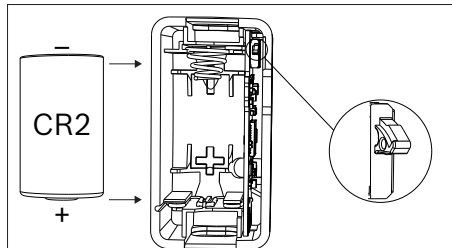

Figure 6.1: Tamper switch and battery orientation in detector
3. Refer to the diagram on the inside cover for correct polarity orientation, then insert the new battery. The green LED lights. Refer to Figure 6.1.
2. Push and hold the tamper switch, and reinsert the battery. When the green LED turns on, release the tamper switch before the green LED turns off (within 4 seconds). Refer to *Figure 6.1*.